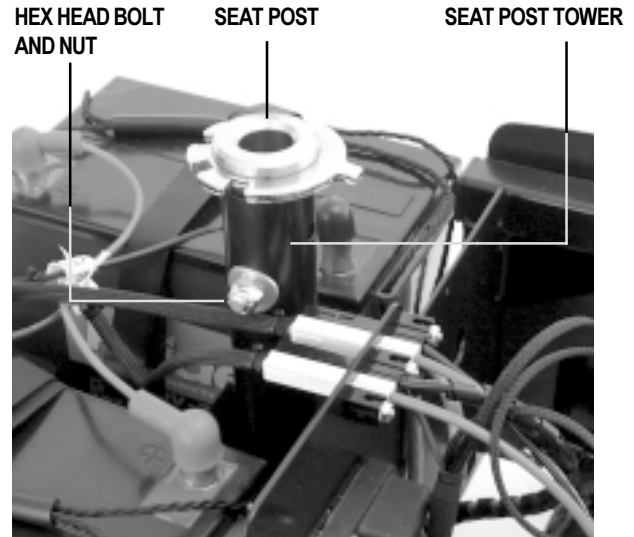

FIGURE 18. SEAT HEIGHT ADJUSTMENT
3. Use two 17-mm wrenches to loosen and remove the hex head bolt and nut. See figure 18.